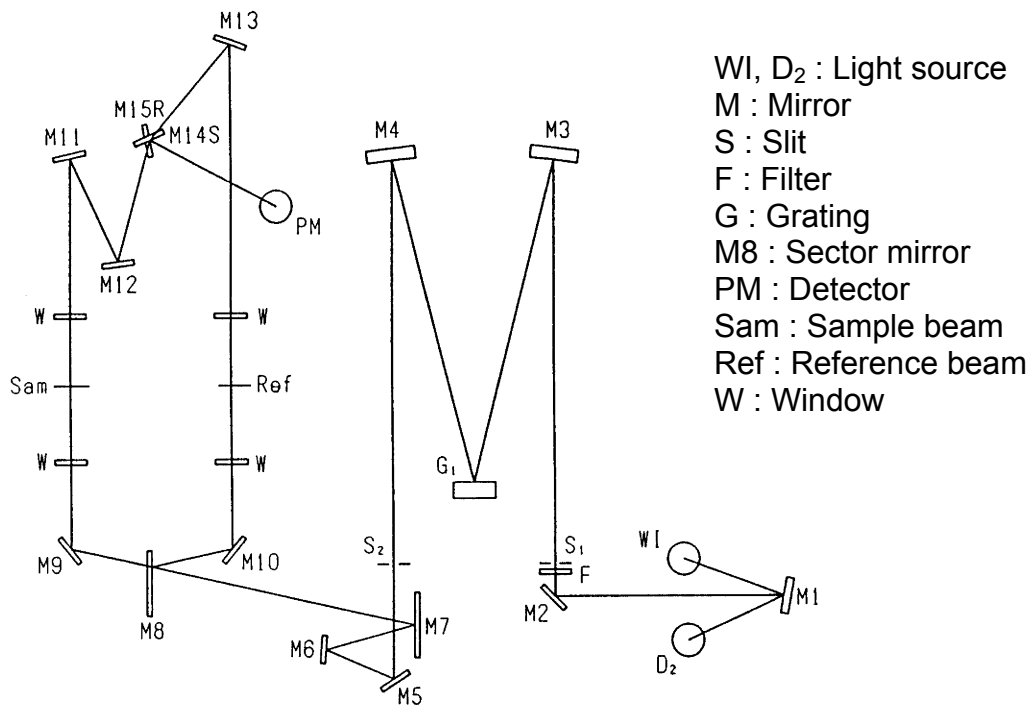

Figure 3.3 V-650 Optical system
The optical system varies between the models of the instrument. Figures 3.3 through 3.5 show the optical systems. The V-650 measures the absorption spectrum of a sample over a wavelength range of 190 to 900 nm, the V-660 measures the absorption spectrum of a sample over a wavelength range of 187 to 900 nm and the V-670 measures the absorption spectrum of a sample over a wavelength range of 190 to 2700 nm (can be extended to 3200 nm using the optional wavelength extension accessory). The light sources used are a deuterium ( $D_2$ ) lamp (187 to 350 nm) for use in the UV region and a halogen (WI) lamp (330 to 2700 nm) for use in the VIS/NIR region. The light from the light source is focused and enters the monochromator. It is dispersed by the grating in the monochromator and focused on to the exit slit. The light that passes through the exit slit is monochromated. This light is split into two beams by a sector mirror, one going to the sample to be measured and the other to the reference sample such as a solvent. The beams that have passed through the sample and reference sample are alternately incident upon the detector (that is a photomultiplier tube or a PbS photoconductive cell).